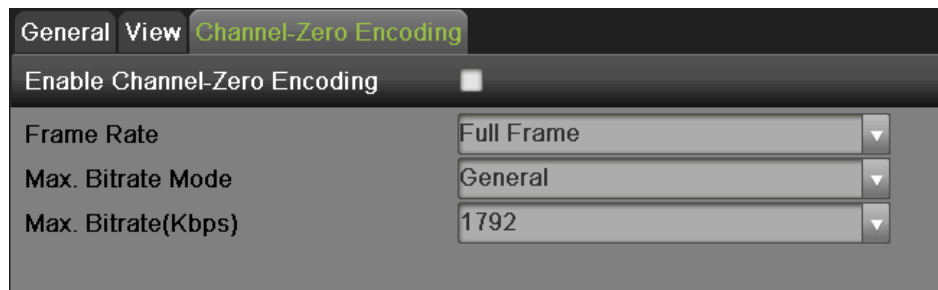

Figure 42 Channel-Zero Encoding Menu
2. Select the Channel-Zero Encoding tab, as shown in Figure 42.